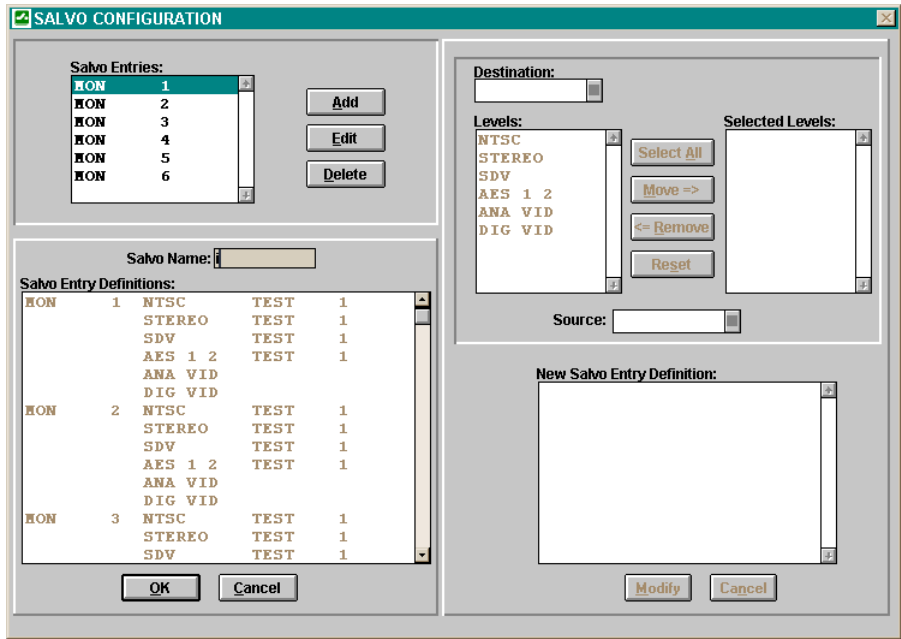

Figure 41 Salvo Configuration Window
1. Click the **Add** button in the SALVO window to open the SALVO CONFIGURATION window (Figure 41).
To modify an existing salvo, select the salvo to be changed and click on the **Edit** button. This will open the SALVO CONFIGURATION window (Figure 41) where any desired changes may be made.
To create a salvo based on an existing one, select the existing salvo and click on the **Copy** button. This will open the SALVO CONFIGURATION window (Figure 41). When this window opens, select a new salvo name, and change the displayed salvo information as required.